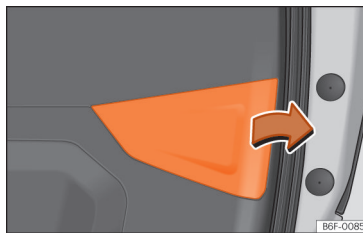

Fig. 172 Rear lid open: remove the lid.
- Remove the rear lid cover in the direction of the arrow >>> Fig. 172.